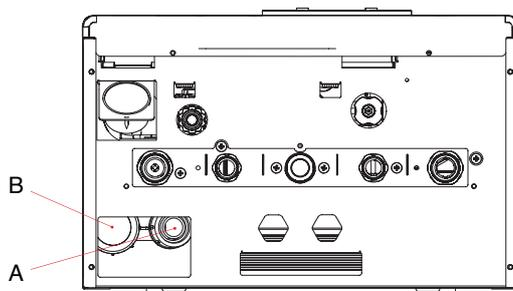

fig. 15
The condensate drain system must be connected to the special connection (A) set up in the boiler (see fig. 15).